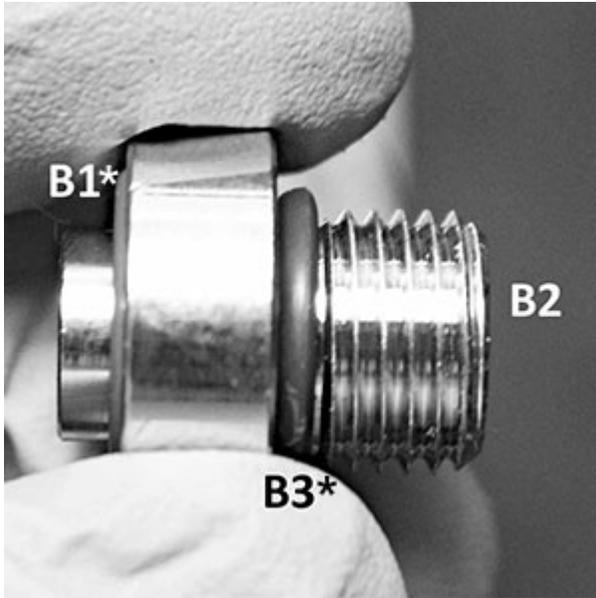
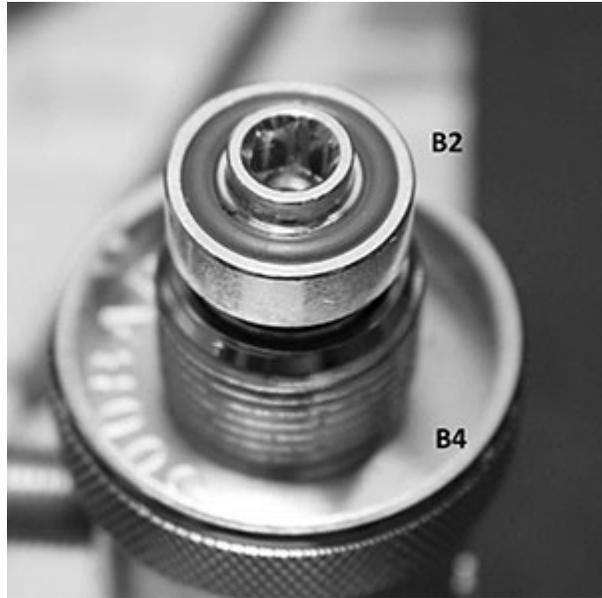

Fig. 38
Fig. 39
12. Place the O-ring (B3*) on the DIN Retainer (B2) and the O-ring (B1*) into its groove - Fig. 38. Place the DIN Knob on the DIN Housing. Screw the DIN Retainer into the DIN Housing - Fig. 39.